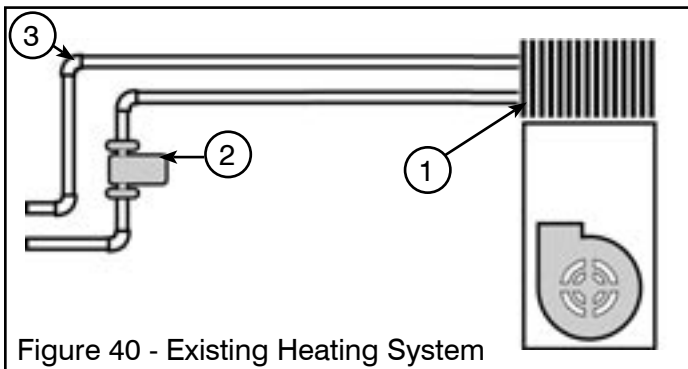

Figure 40 - Existing Heating System
1. Install the heat exchange radiator (1, Fig. 40) in the hot air plenum of the forced air furnace, taking care to seal joints and holes.
2. Install the circulating pump (2, Fig. 40) on the supply line.
8. A bleeder valve (3, Fig. 40) installed in the return line allows filling and draining of the system.